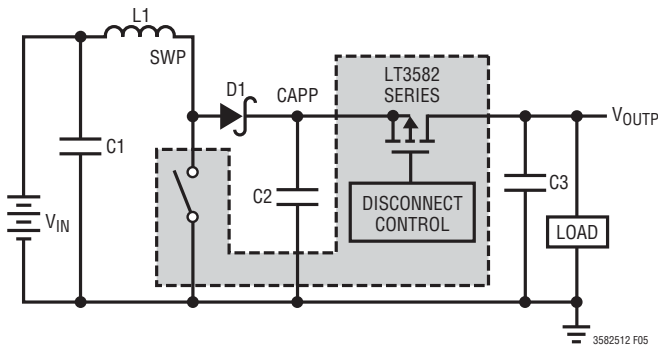
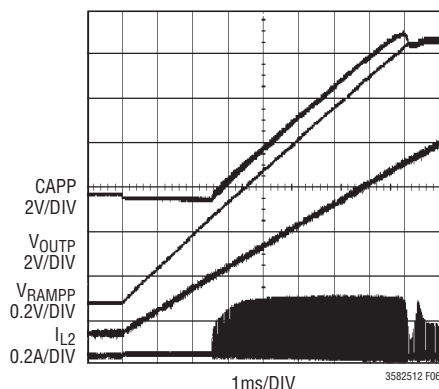

Figure 5. Boost Converter Topology
Figure 6.  $V_{OUTP}$  Soft-Start Ramping from Ground
For example, selecting  $I_{RAMP} = 1\mu A$ ,  $C_{RAMP} = 10nF$  and  $V_{OUTP} = 12V$  results in a power-up ramp rate of 1.5Volt/ms (see Figure 6).
**Ramping  $V_{OUTP}$  from Ground:** The LT3582 series has the unique ability to generate a smooth  $V_{OUTP}$  voltage ramp starting from ground and continuing all the way up to regulation (see Figure 6). This ability is not possible with typical Boost converters in which the output is taken from the cathode of the Schottky diode (CAPP node in Figure 5).
The LT3582 series incorporates an output disconnect PMOS allowing  $V_{OUTP}$  to be grounded during shutdown. Once enabled, the Disconnect Control circuit actively drives the PMOS gate allowing  $V_{OUTP}$  to ramp up linearly as shown in Figure 6. Once  $V_{OUTP}$  reaches regulation, the PMOS is fully turned "on" to reduce resistance and improve efficiency.